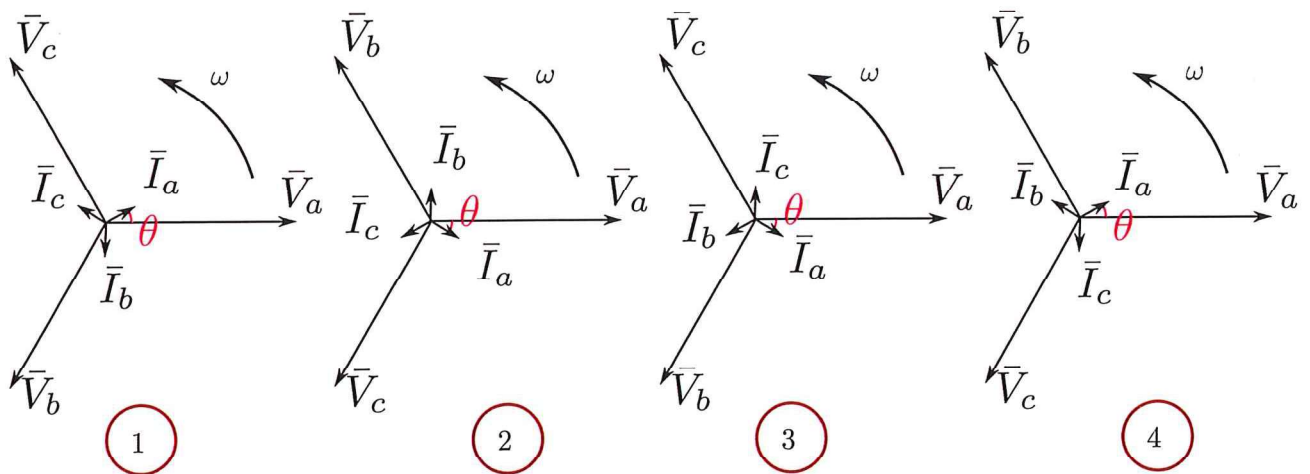

Figure 2: Phasor diagrams.
- [6.6%] Which one of the phasor diagrams shown in Fig. 2 is correct? Explain your answer.